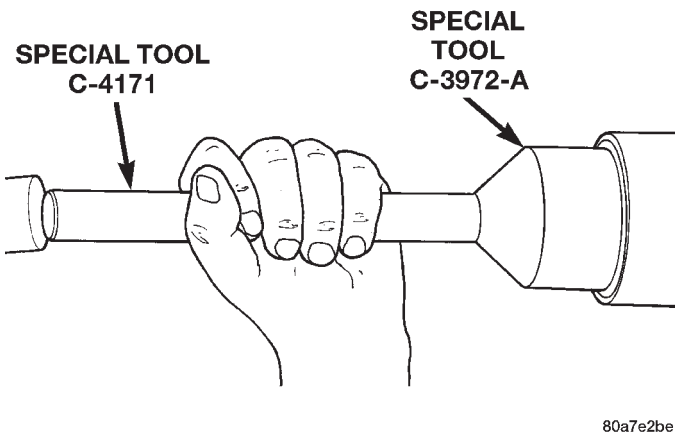

Fig. 42 Pinion Seal Installation
(5) Install pinion front bearing, and oil slinger, if equipped.
(6) Apply a light coating of gear lubricant on the lip of pinion seal. Install seal with Installer C-3972-A and Handle C-4171 (Fig. 42).